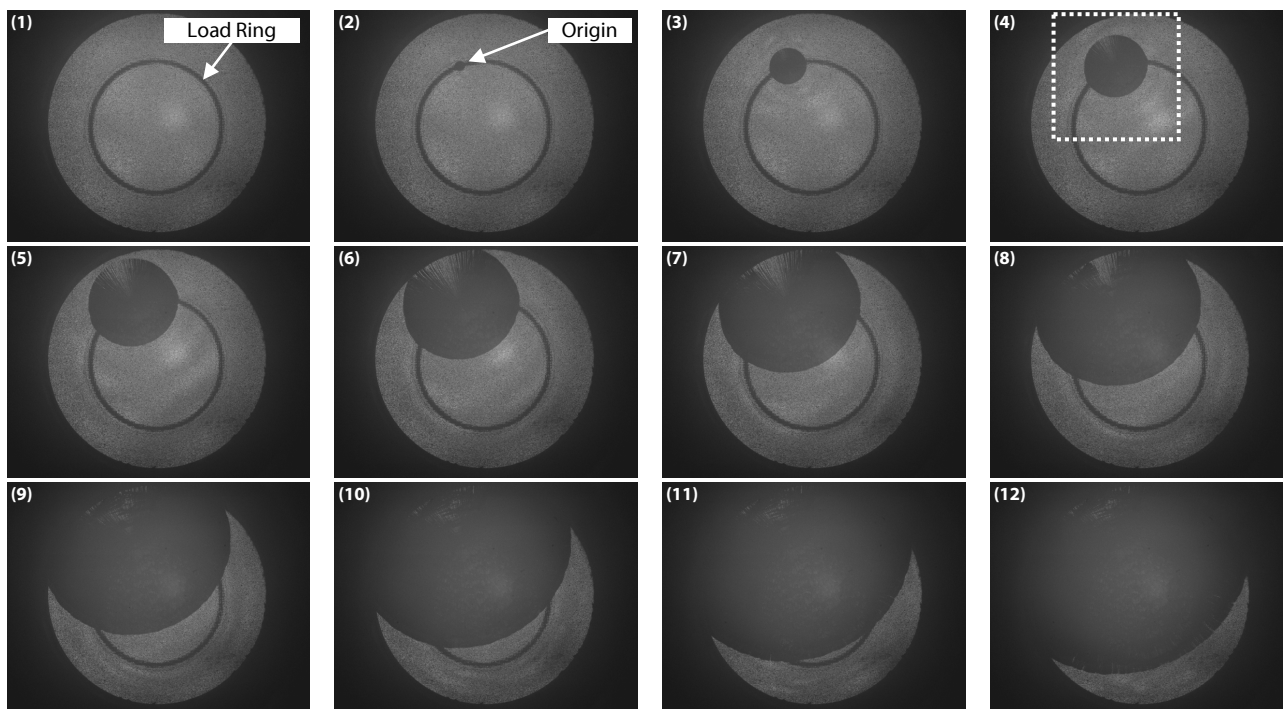
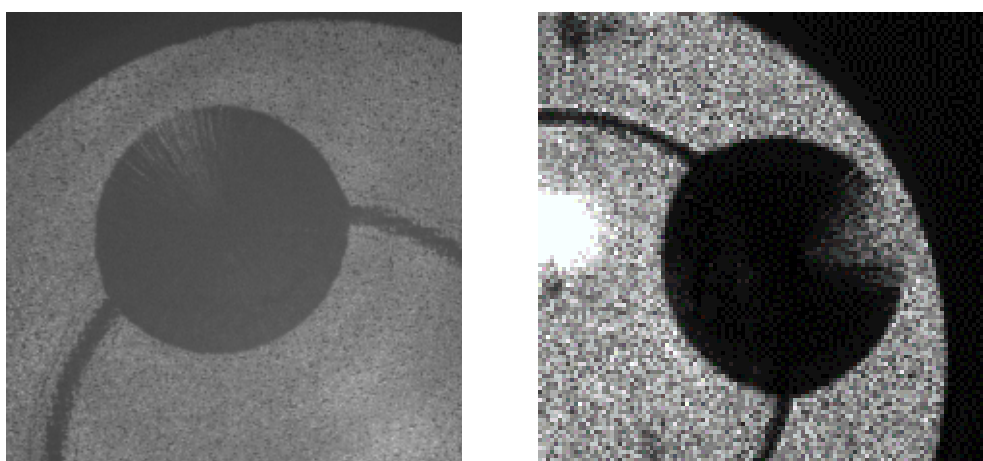

Fig. 4 Fracture Observation in the Ring-on-Ring Bending Test Captured with the HPV-X3 (Time Interval between Images: 1  $\mu$ s)
Fig. 5 Enlarged Images of the Fracture Area of the Glass during the Test Captured with the HPV-X3 (left) and HPV-X2 (right)1)
Fig. 4 shows the results of the fracture observation in the ring-on-ring bending test. In (2), the fracture origin on the load ring can be seen, and then, from (3) to (12), the propagation of the cracks can be observed as the circle of origin expands. Fig. 5 compares the images captured with the HPV-X2 in the previous report with the newly captured images taken using the HPV-X3. The image from the HPV-X3 in Fig. 5 is an enlarged view of the crack area from Fig. 4(4). Similarly, the image from the HPV-X2 in Fig. 5 is an enlarged view of the crack area from the previous report. In the HPV-X2 image, the outline of the black circle at the fracture is somewhat unclear. In contrast, the HPV-X3 allows for the identification of cracks radiating from the fracture origin, and it can be seen that the improved resolution enables more detailed observation.